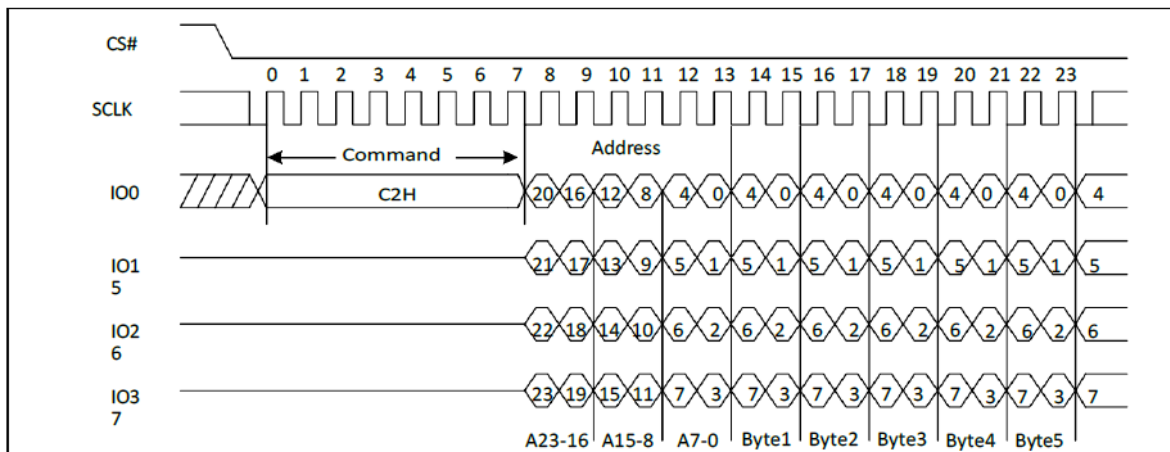

Figure 26 Extend Quad Page Program Sequence Diagram (SPI)
The Extend Quad Page Program with 4-Byte Address instruction(3EH) is similar to the Extend Quad Page Program instruction(C2h) except that it requires 32-bit address instead of 24-bit address. The Extend Quad Page Program with 4-Byte Address can improve performance for PROM Programmer and applications that have slow clock speeds <5MHz. Systems with faster clock speed will not realize much benefit for the Quad Page Program with 4-Byte Address instruction since the inherent page program time is much greater than the time it take to clock-in the data. To use Quad Page Program with 4-Byte Address the Quad Enable (QE) bit must be set to 1. The Quad Page Program with 4-Byte Address instruction sequence is shown in Figure 26.